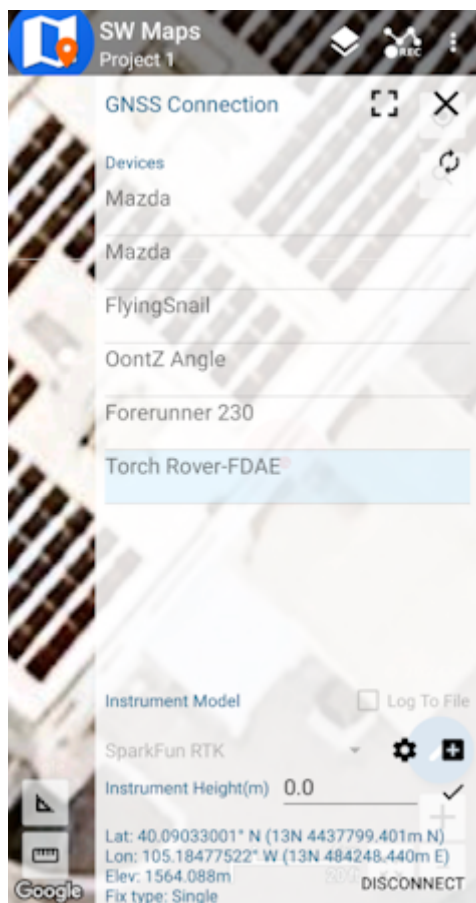

Figure 5
6. Press the SW Maps icon in the top left corner of the home screen and select **Bluetooth GNSS**. You should see the Torch Rover-3AF1' in the list. Select it. Confirm that the *Instrument Model* is **SparkFun RTK**, then press the 'Connect' button in the bottom left corner (Figure 5). SW Maps will show a warning that the instrument height is 0m. That's ok.